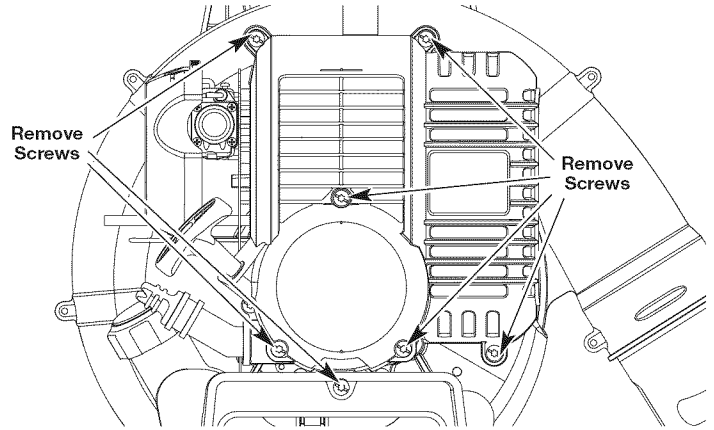

Fig. 30
- Remove the seven (7) screws on the back of the engine cover with a Flat-head or T-25 Torx screwdriver (Fig. 30).
- Remove the engine cover (Fig. 30).
1. Stop the engine and allow it to cool. Remove the eight (8) screws on the back of the engine cover with a Flat-head or T-25 Torx screwdriver (Fig. 30).